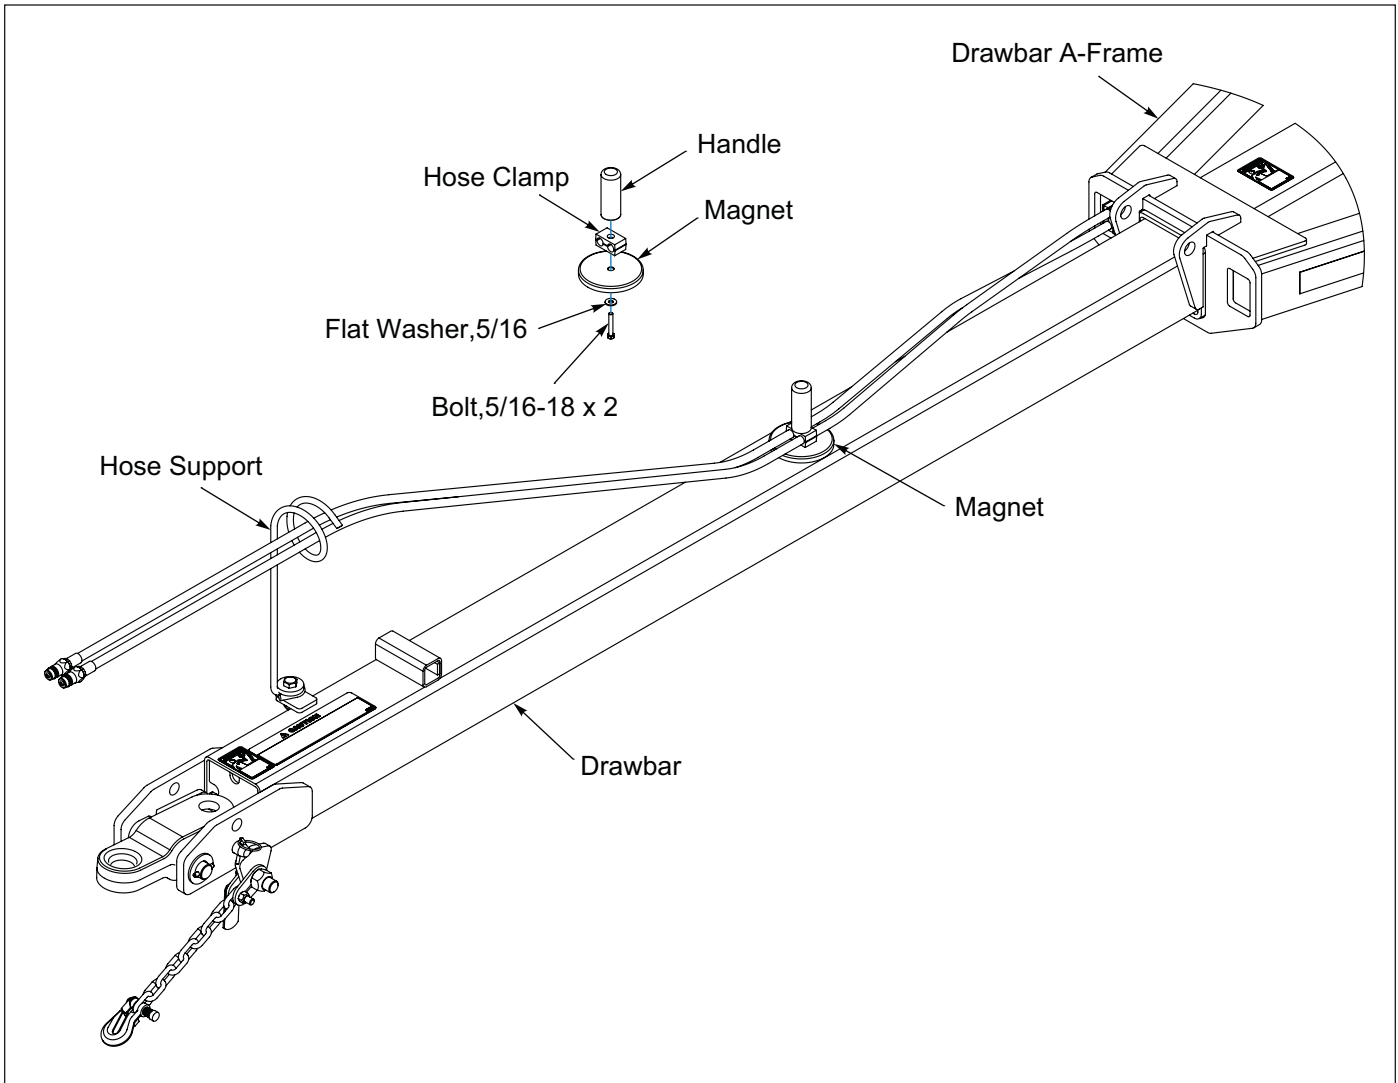

Figure 2-12: Telescoping Drawbar Magnet Hose Holder
3. **Telescoping Drawbars:** Assemble the Magnet, Hose Clamp, Handle and Hardware to the Drawbar Hoses halfway between the Drawbar A-Frame and Hose Support. See Figure 2-12.